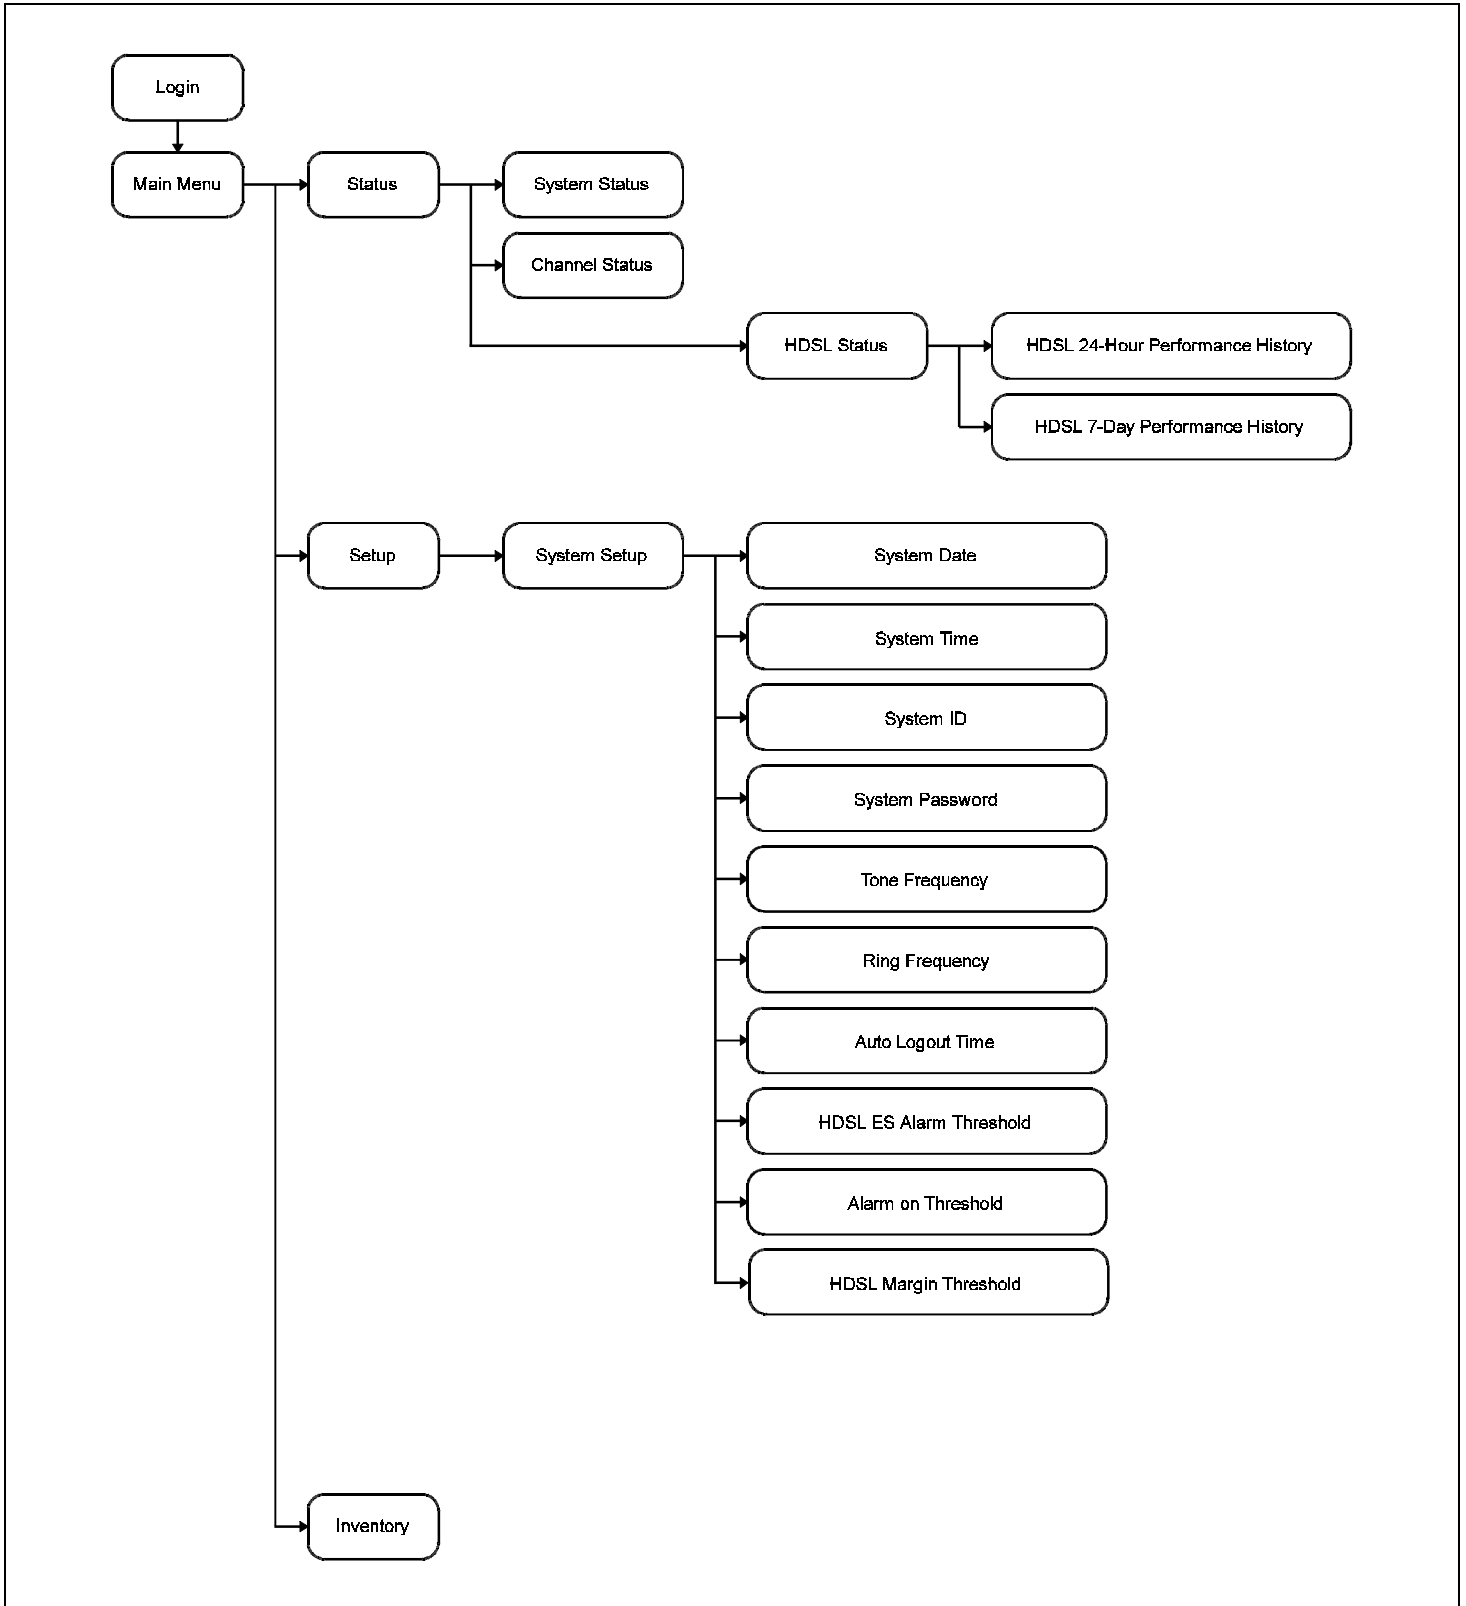

Figure 5. Terminal Menu and Display Structure.
8.03 Menus and Displays. Figure 5 shows the menu structure of the terminal management system. Table 4 defines the terms appearing on the Status displays. Following are brief descriptions of each menu and display screen:
- **Status.** By selecting the Status option (A) from the Main Menu, the technician can: